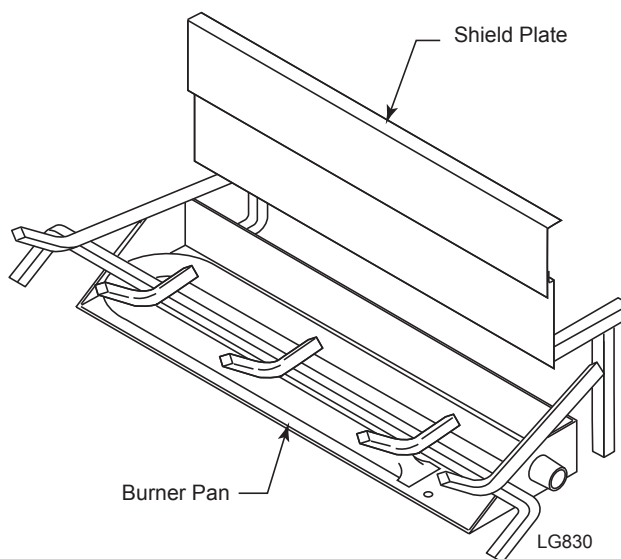

**Figure 62 -
1. Slide shield plate behind burner pan. *Figure 62*